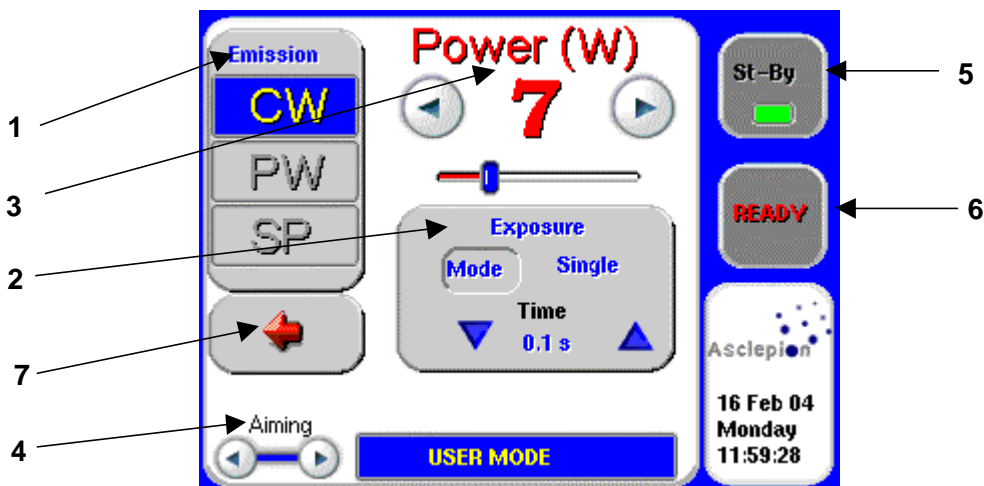

Figure 9: USER menu
The USER menu *Figure 9* contains controls and displays for changing the system's operating parameters. A detailed description of each parameter is given below.
The selected exposure mode is displayed on the screen (*Figure 9*) in the “Exposure” area. To change the exposure mode, touch the “Mode” button.
The system displays the selected exposure time in the "Exposure" field (see Figure 9). Additionally, this field contains two keys to vary the exposure time between 0.1 s and 0.9 s (resolution: 0.1 s).
Press the Go Back key (7), *Figure 9*, to return to the BASIC menu.